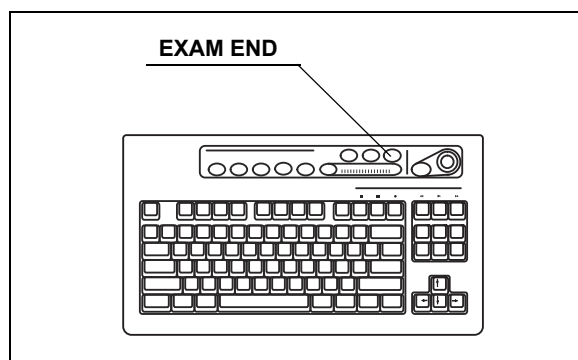

Figure 4.13
5. When deleting all patient data displayed on the monitor, press the “EXAM END” key on the keyboard (see Figure 4.13).